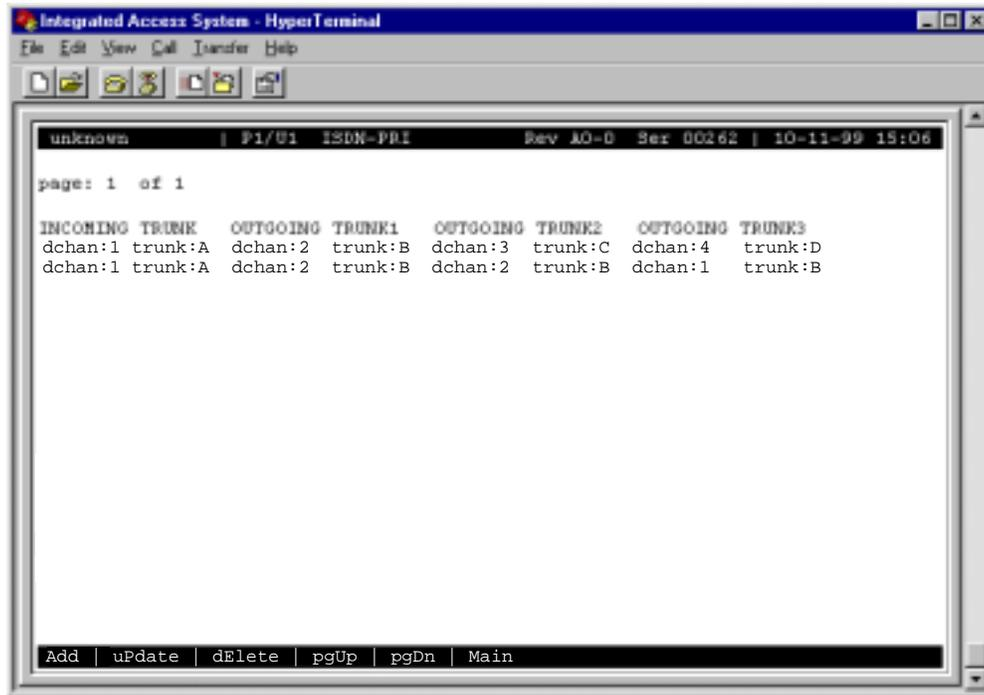

Figure 4-18. Add Trunk Route Screen
**All eight fields must be changed for each new trunk route.** For instance, if you want a single incoming trunk group to be routed to three outgoing trunk groups on three different D channels, the process is easy. In Figure 4-18 the first trunk route shows this configuration. D channel #1, trunk group “A” is to be routed to D channel #2, trunk group “B.” If that route is busy, it will be routed to D channel #3, trunk group “C.” If that route is busy, it will be routed to D channel #4, trunk group “D.” If that route is busy, the unit will drop the call.
Another example of this procedure is shown in Figure 4-18. If you want a single incoming trunk group to be routed to only one outgoing trunk group, D channel #1, trunk group “A” is routed to D channel #2, trunk group “B.” **The alternate routes 2-3 must contain the same information in alternate route #2.** Since this is the only alternative route, if that route is busy, the unit will drop the call.